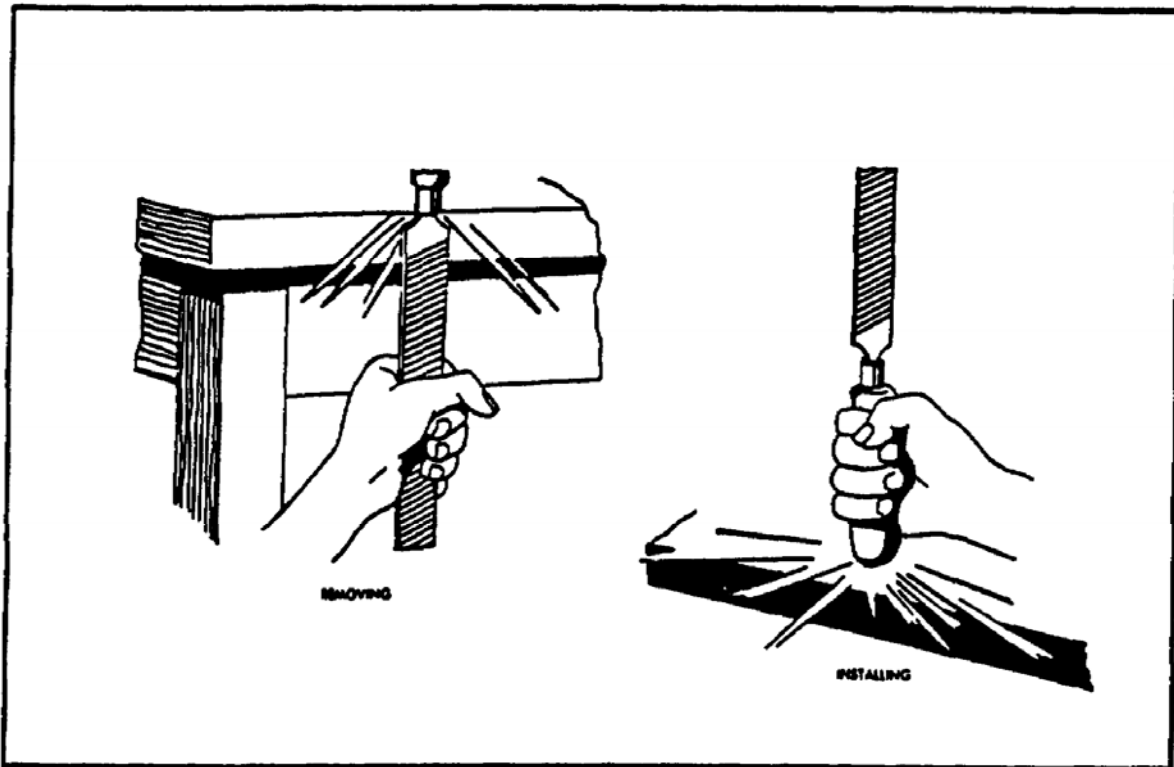

FIGURE 103. REPLACING A FILE HANDLE.
(1) To remove a handle, hold the file with one hand and the handle with the other hand; pull the file from the handle while striking the ferrule end of the handle against the edge of a bench, as shown in figure 103.
(2) To install a new handle, insert the tang end of the file into the handle socket exerting pressure with your hands. Then tap the handle on the bench top until the file is seated, as shown in figure 103. Do not hammer a file into a handle.